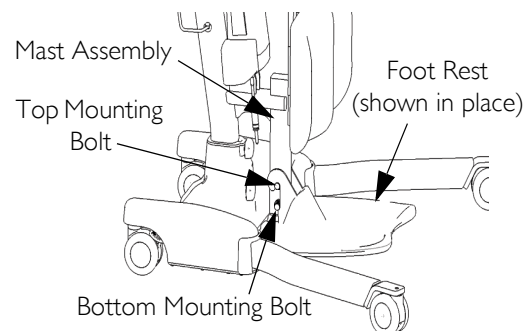

**FIGURE 2.2** Assembling the Knee Pad to the Mast Assembly
*NOTE: For this procedure, refer to FIGURE 2.2.*